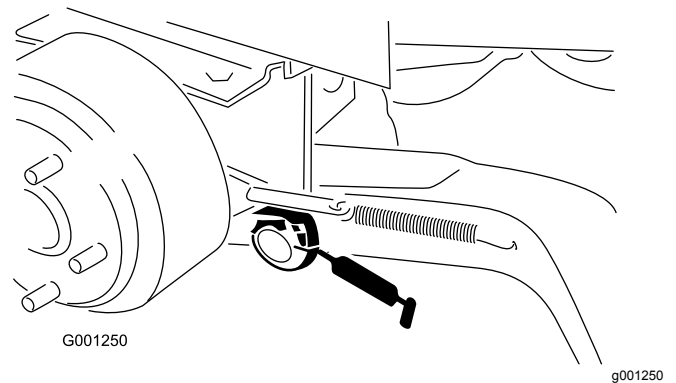

Figure 35
- Lift-arm pivot bushings (Figure 35)